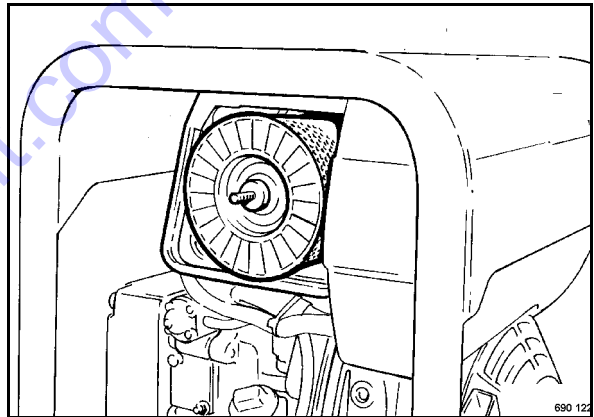

Fig. 43
- Insert the filter cartridge (Fig. 43) into the housing and fasten it with the knurled nut.